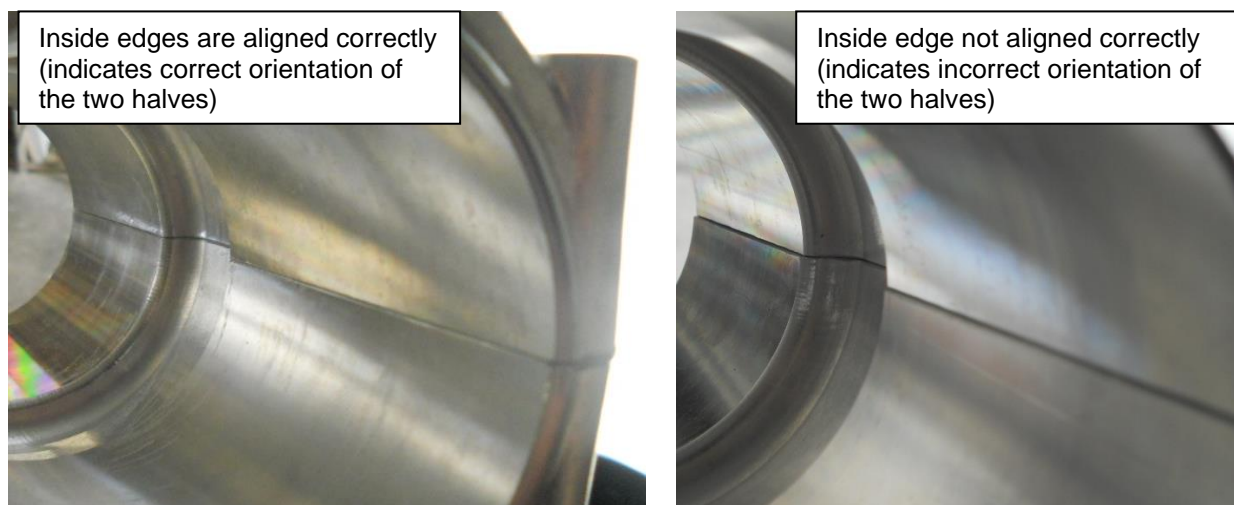

Figure 5 - propeller hub inner edge alignment check
- d. As Figure 5 below shows one orientation of the two halves will have the inner edge align nicely. The other orientation will have the inner edges misaligned slightly. The propeller must be installed with the inner edged of the two hub halves aligned.